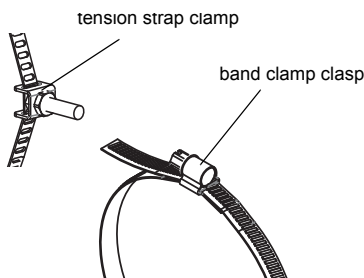

Fig. 7.7: Tension strap with band clamp clasp and tension strap clamp
- Insert the tension strap in the tension strap clamp (see Fig. 7.7).
- Place the tension strap around the pipe and insert it in the clasp (see Fig. 7.7).